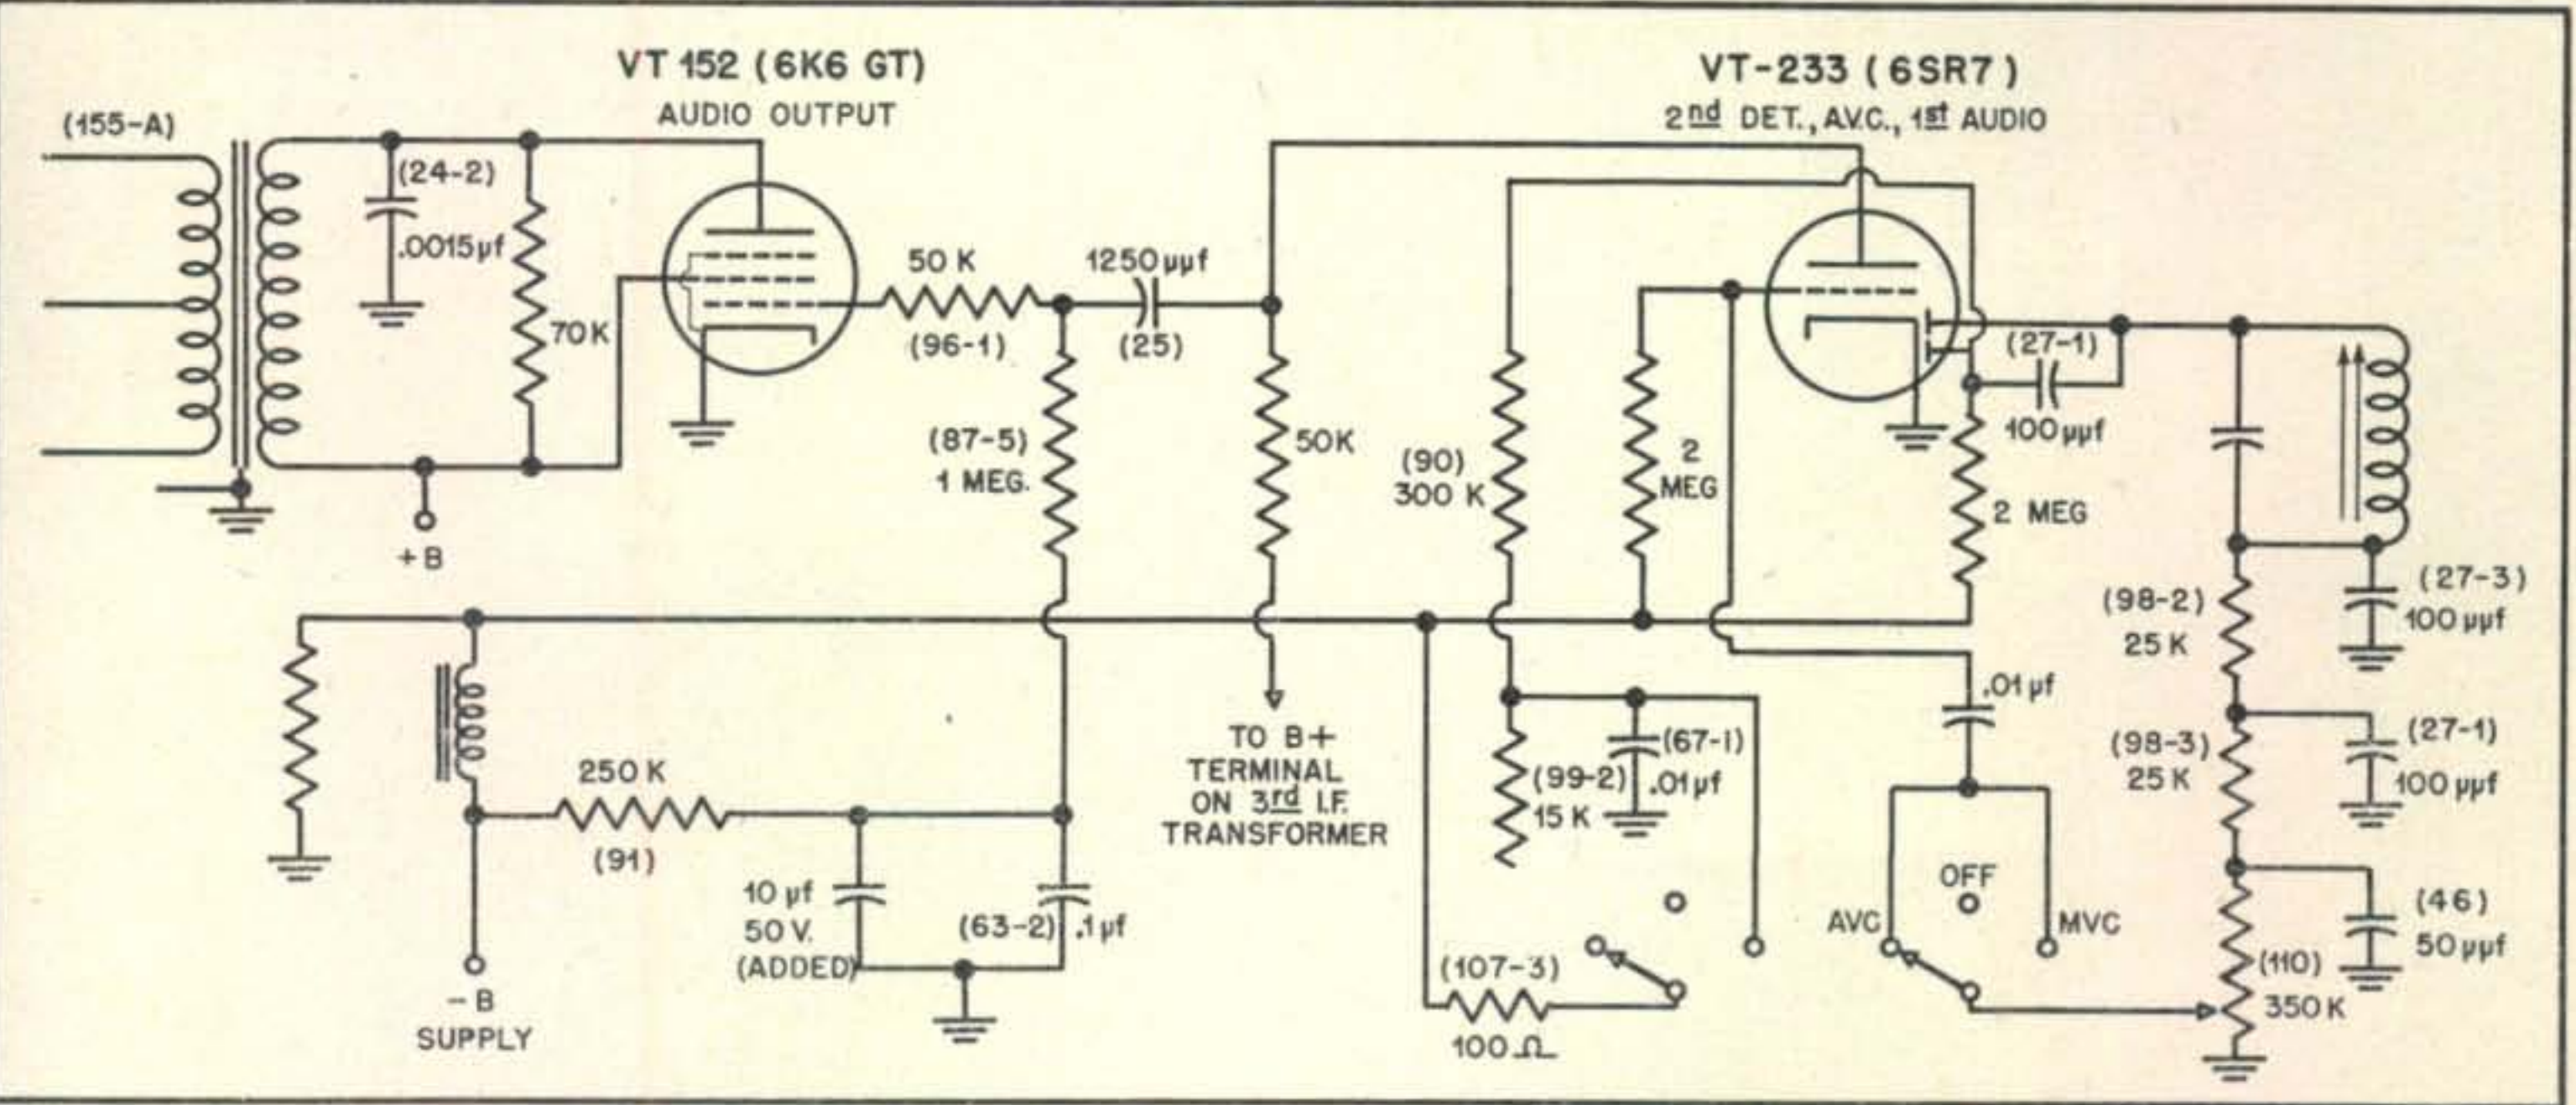

Fig. 2. Changes made in the circuit to increase the audio output of the BC 348-Q.
In order to get more audio, the following changes are made in the 2nd detector stage as shown in Fig. 2.
It is necessary to rewire the A.V.C.-M.V.C. switch at this point so that the negative 2.5 volts will appear on the tube grids when the switch is in the m-v-c position as well as the a-v-c position (see Fig. 2). In the a-v-c diode circuit are two resistors which form part of the filter network. The junction of the 300,000-ohm resistor (90) and the 15,000-ohm resistor (99-2) is connected to a terminal on the A.V.C.-M.V.C. switch. When the switch is in the m-v-c position, this terminal is grounded through a 100-ohm resistor (107-3). To keep protective bias on the tubes when operated with manual volume control, disconnect the 100-ohm resistor from ground and wire it to the negative 2.5-volt side of the 50-ohm resistor (108-2). Now the switch will short out all of the voltage developed by the a-v-c diode, and will also keep protective bias on the amplifier tubes.